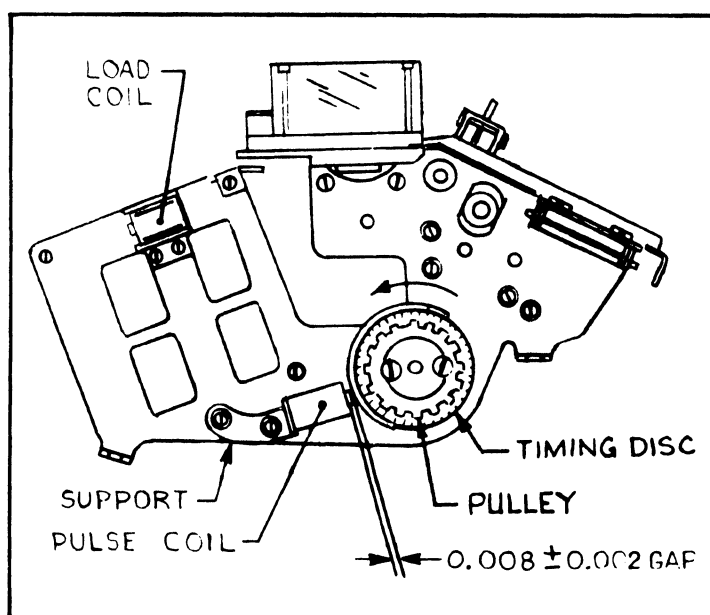

Figure 3.14 Timing Pulse Generator
When the timing disc at one end of the input shaft interrupts the magnetic flux produced by current flow through the solenoid, it generates a timing pulse. The pulse coil is mounted adjacent to the timing disc and its load coil is mounted to the same punch side frame; see Figure 3.14.
1. The gap between the timing disc and pulse coil shall be  $0.008 \pm 0.002$  inch; see Figure 3.14. The gap shall be measured with a feeler gage while the punch is not in operation. Measurements shall be made between pulse coil pole piece and several spots along the edge of the disc at input shaft settings between 180 degrees and 360 degrees.
**CAUTION:** Holes in the coil support plate shown in Figure 3.14 are slotted so that the support may move toward or away from the timing disc with only a minimum amount of side play. This is required because the center of the solenoid core is the reference point for timing disc markings.